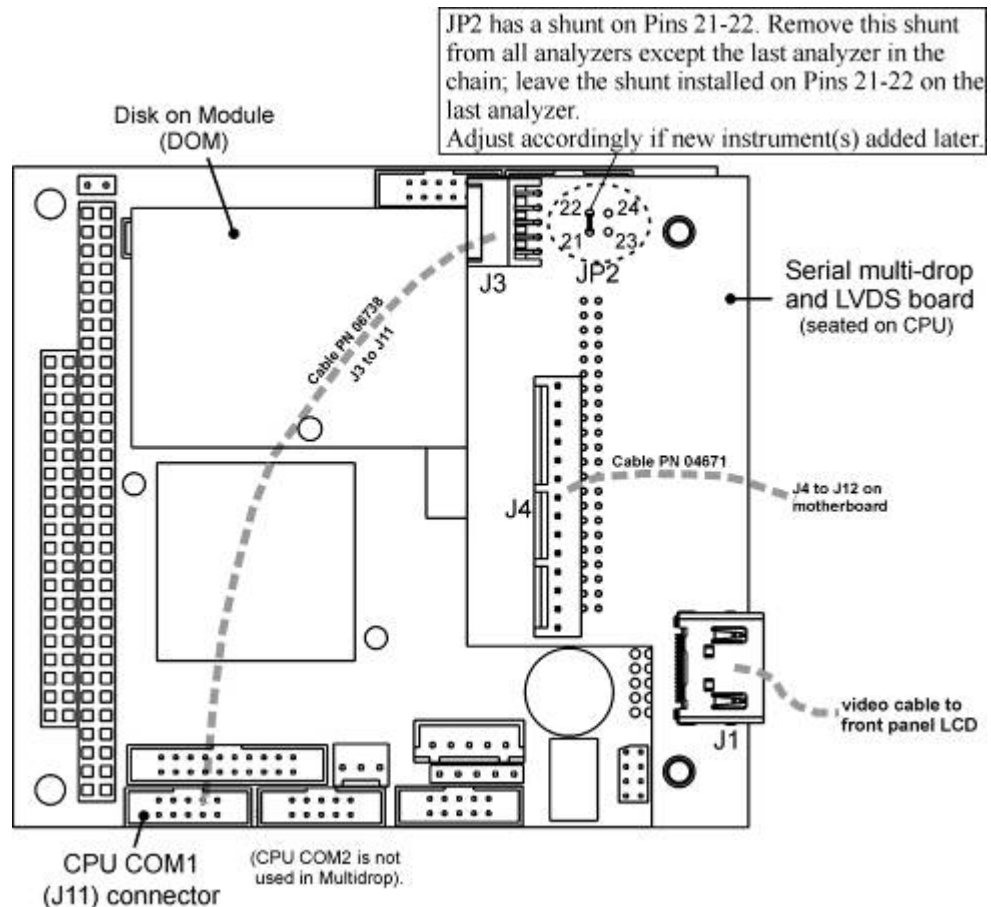

Figure 2-10. Jumper and Cables for Multidrop Mode
In each instrument with the Multidrop option there is a shunt jumpering two pins on the serial Multidrop and LVDS printed circuit assembly (PCA), as shown in Figure 2-10. This shunt must be removed from all instruments except that designated as last in the multidrop chain, which must remain terminated. This requires powering off and opening each instrument and making the following adjustments:
2. On the Multidrop/LVDS PCA's JP2 connector, remove the shunt that jumpers Pins 21 ↔ 22 as indicated in Figure 2-10,. (Do this for all but the last instrument in the chain where the shunt should remain at Pins 21 ↔ 22).
3. Check that the following cable connections are made in all instruments (again refer to Figure 2-10, and note that the CPU's COM2 connector is not used in Multidrop):